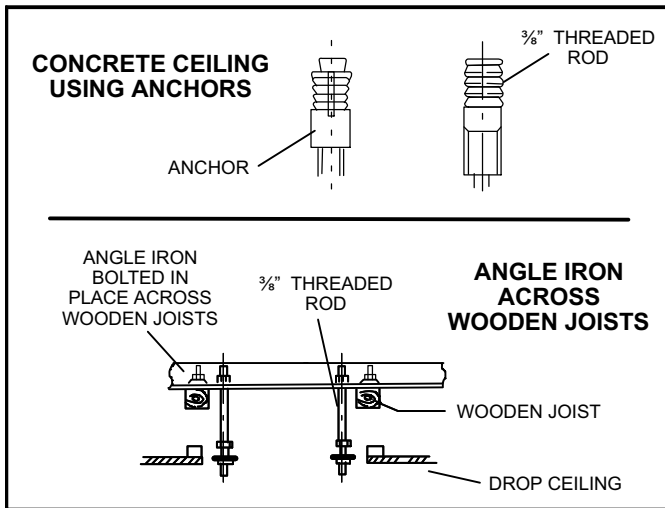

Figure 2. Suspending Methods
necessary to add extra support. If the structural ceiling is constructed of concrete, install anchors to accept four $\frac{3}{8}$ " threaded rods to suspend the cassette base. If the structural ceiling includes wooden joists, use angle iron or a Unistrut channel fixed securely in place to accept the $\frac{3}{8}$ " threaded rods. See figure 2.
- 5 - Slide one nut and one washer onto each threaded rod. Use electrical tape to keep the washer from falling off. Position the nuts slightly above the final resting place of the four suspension brackets. See figure 2.